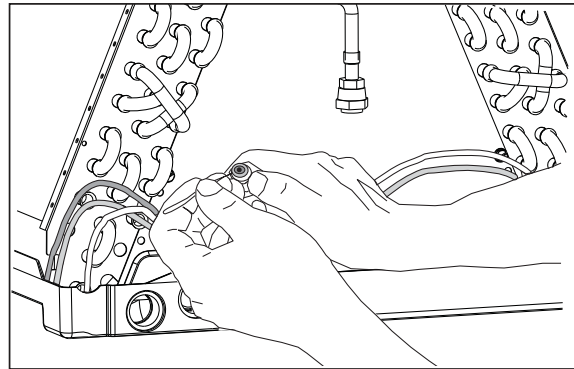

Figure 10. Removal of Orifice
4. Insert a light-gauge wire hook between the distributor body and the restrictor orifice to lift the orifice out of the body. (**See Figure 10**) Carefully remove the restrictor orifice being careful not to scratch either part.